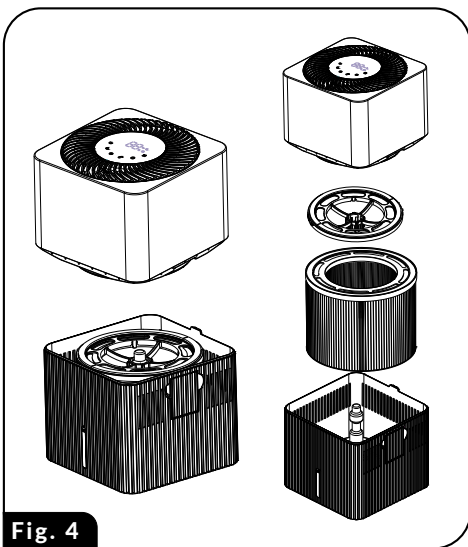

Fig. 4
1. Remove the humidifier's housing (3) from the water tank (10). Remove the floater's ring (4), the filter (6) and the floater (5).
3. Fill the water tank (10) with warm water and wash it. Use a mild cleaning agent for stubborn dirt. Clean the water tank frequently, once in 1-2 days.
4. Gently wash the floater (5) in water.
6. Descale the water tank (10) periodically. Fill the tank with a mixture of vinegar and water (1:1 proportions) and leave for several hours. After descaling, pour out the mixture and rinse the tank with fresh water.
7. The humidifier features a working hours counter. Upon reaching 4320 working hours (180 days), the device will request the replacement of the evaporative filter (6) with a new one - the LED display will show a message "FR". Once the filter has been replaced, reset the filter's timer by pressing and keeping depressed, for 3 seconds, the switch (2a), while the humidifier is on. When replacing the filter follow the procedure (Fig. 4 shows the installation of components):
- remove the humidifier's housing (3) from the water tank (10)
- remove the floater locking ring (4) from the evaporative filter
- install the floater locking ring (4) on the filter
- install the housing (3) on the water tank (10).